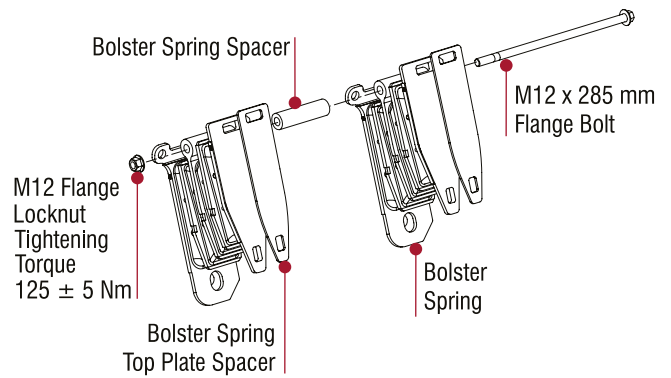

Figure 25: Bolster Spring Spacers
3. Install the tie-bar bolt from the outboard side and install spacer. Tighten fasteners to **125 Nm** torque, refer Figure 25.